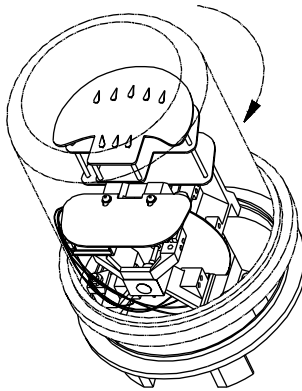

Figure 8. Replacing Cover
11. Replace the cover by screwing it back on in a clockwise direction. Ensure all wires are clear of operational parts. See Figure 8.